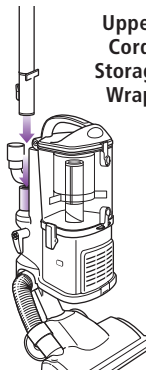

Fig. 10
- 3 Attach the end of the extension wand to the tube on the back of the detachable canister until it clicks into place. (Fig. 10)